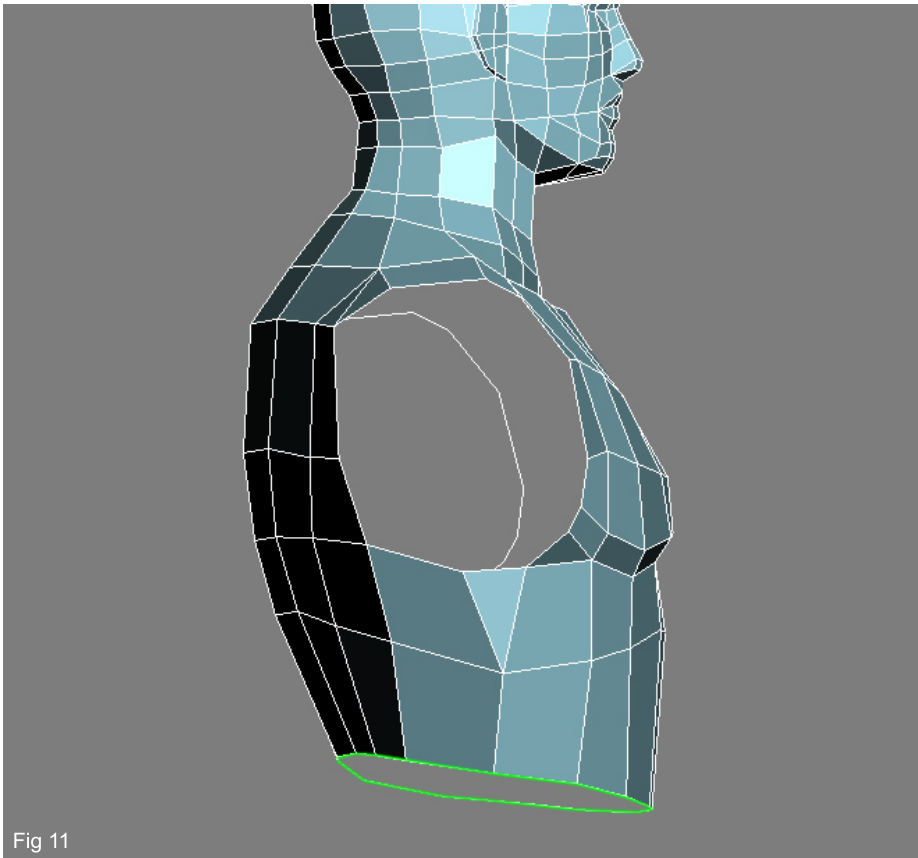

Fig 11
11. We now have a complete upper torso with a hole ready to build our arm. All that we need to do now is extend it downwards to form the lower back, abdomen and pelvic area. Once again grab the lower ring of edges and copy them downwards (green line in Fig11).